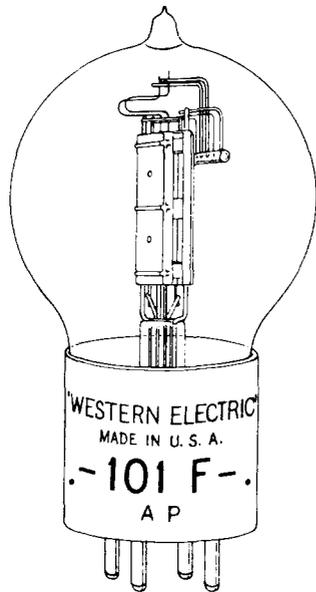

Fig. 5 — Typical Example of Base Marking
3.011 Fig. 5 shows a 101F electron tube of the spherical bulb type. As indicated, the manufacturer's name, place of origin, and code are stamped on the tube base. In addition, two letters (AP in the example shown in Fig. 5) have been stamped on the base to indicate the date of manufacture. As shown below the first letter signifies the year and the second letter the month in which a given tube of this general type was produced.
3.012 In accordance with the above scheme, the letters shown in Fig. 5 indicate a tube manufactured during the month of November, 1936. This type of marking was applied to the 101F, 102F, 102D, D86326, and D86327 electron tubes, and was continued in effect until these types of tubes were superseded by corresponding dome type tubes.